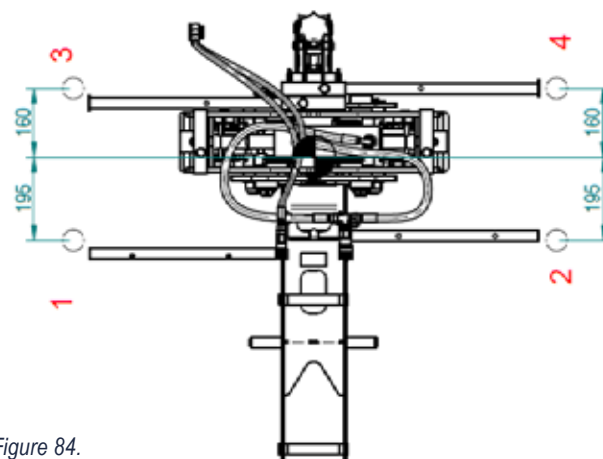

Figure 84.
**2 persons needed for lift. Lifting handles see "Figure 84."**